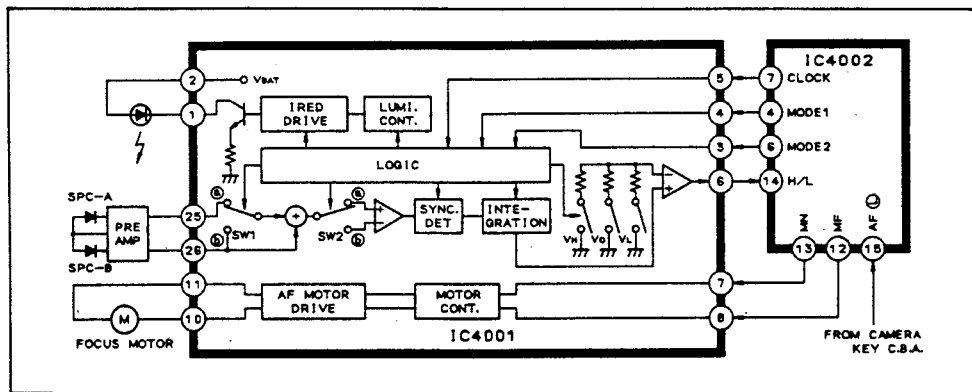

Fig. I-6
② Mode transition (Refer to Fig. I-6)